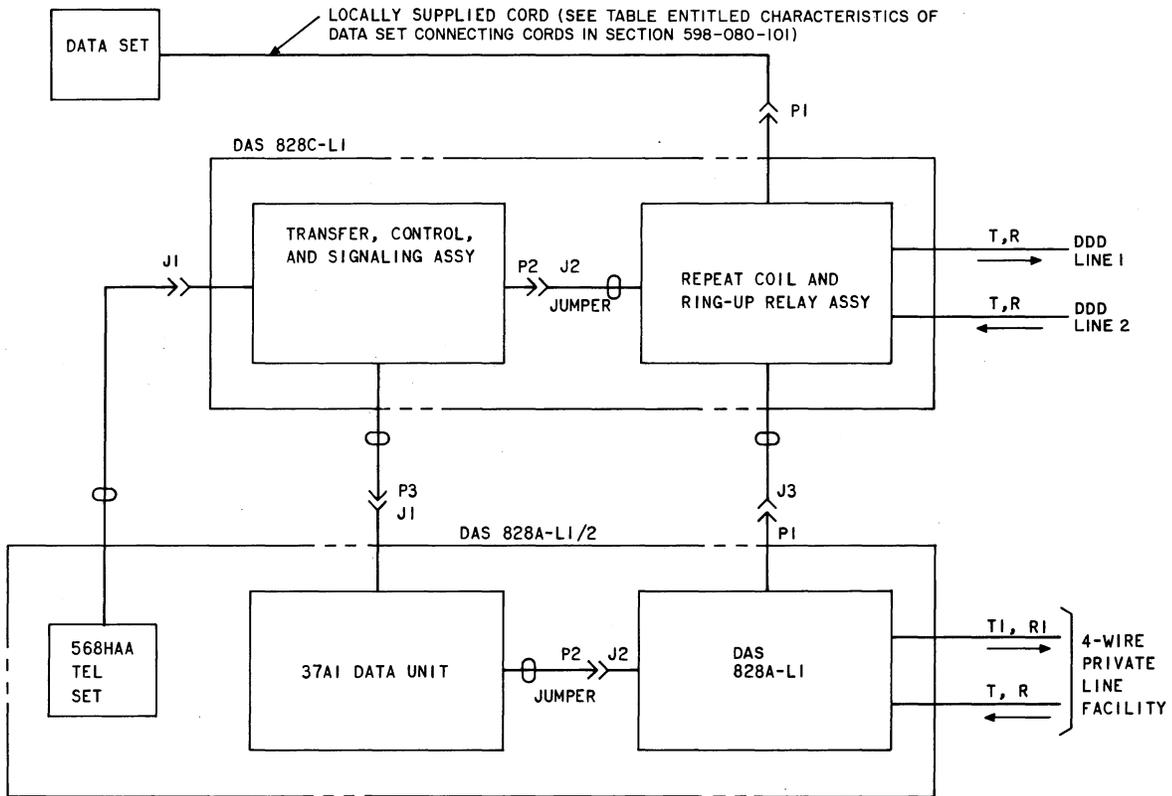

Fig. 4—Connections for DDD Backup for Alternate Data/Voice on Private Line
3.04 A block diagram showing the connections for 4-wire DDD backup service with alternate data/voice on the 4-wire PL is shown in Fig. 4. Apparatus required for this arrangement is shown in Fig. 5.
- (2) If DAS 828C is associated with DAS 828A-L1/2, connect per Fig. 4. Modify the telephone set per Fig. 6A.